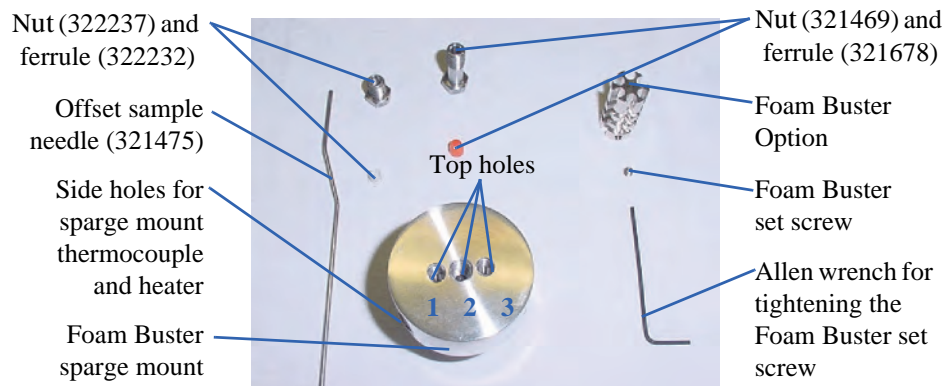

Figure 8.5. Foam Buster option parts
2. Install new Q/qy" glass-filled Teflon® ferrules (PN 177626) by placing the tapered end into top holes 1 and 3 of the Foam Buster sparge mount (Figure 8.5).